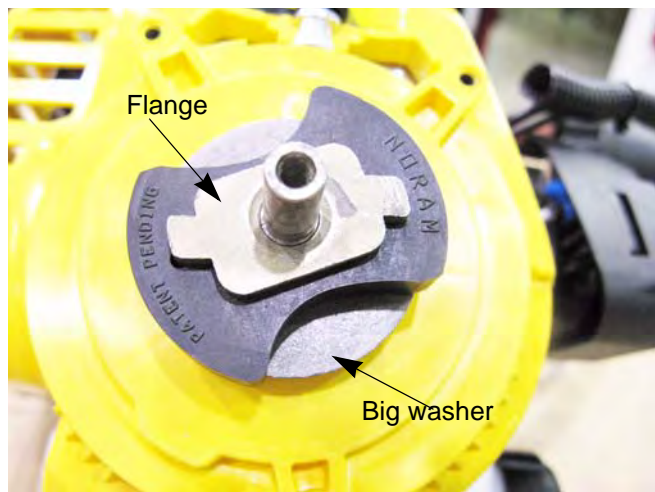

Figure 7.9
**NOTE:** The big washer goes between the rotor and the starter housing. See Figure 7.9.